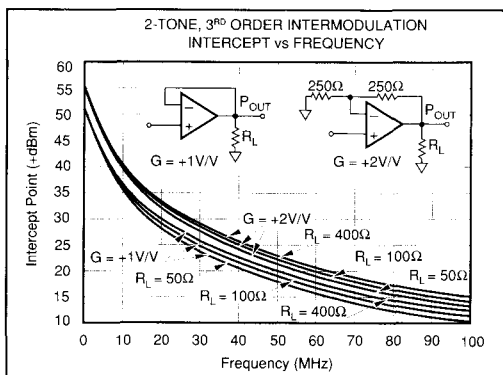

FIGURE 9. 2-Tone, 3rd Order Intermodulation Intercept vs Frequency.
Two-tone, third-order intermodulation (IM) is an important parameter for many RF amplifier applications. Figure 9 shows the OPA620's two-tone, third-order intercept vs frequency. For these measurements, tones were spaced 1MHz apart. This curve is particularly useful for determining the magnitude of the third-order IM products as a function of frequency, load resistance, and gain. For example, assume that the application requires the OPA620 to operate in a gain of +2V/V and drive 2Vp-p into 50Ω at a frequency of 10MHz. Referring to Figure 9 we find that the intercept point is +40dBm. The magnitude of the third-order IM products can now be easily calculated from the expression: